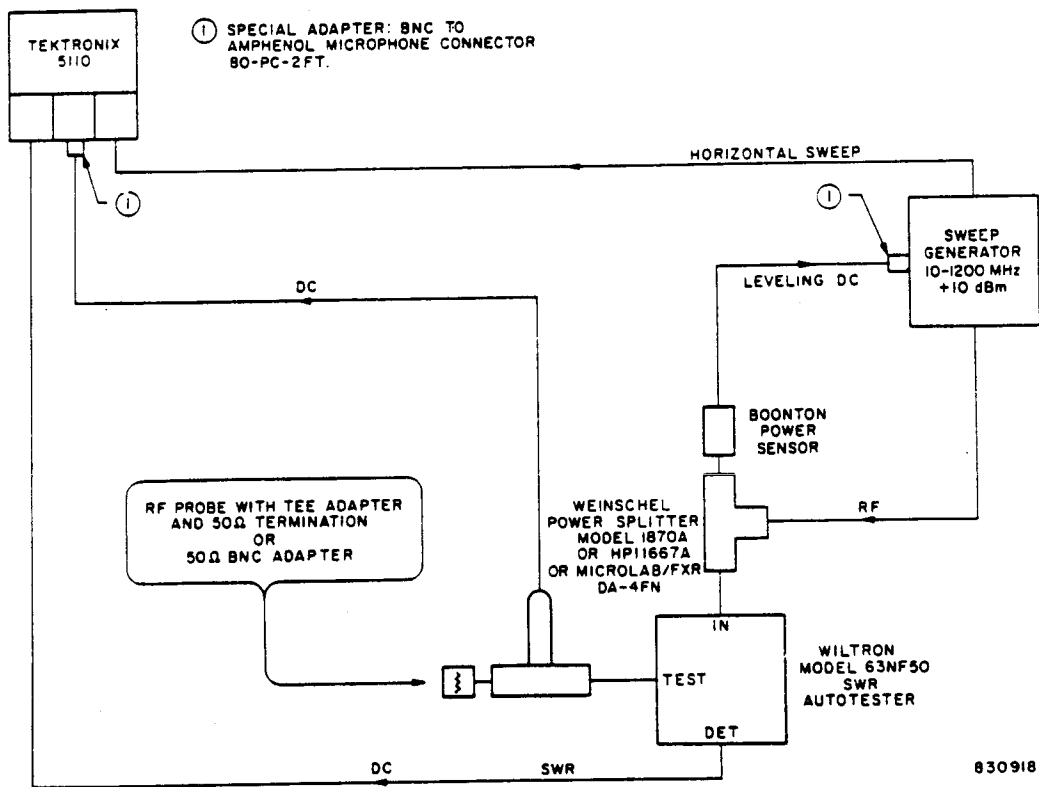

Figure 5-2. Swept Frequency Response Test Setup.
a. Connect the equipment as shown in Figure 5-2, and temporarily connect the probe under test to the instrument. Adjust the output control of the sweep generator for a reading on the instrument of 100 mV at a fixed frequency of 100 MHz.